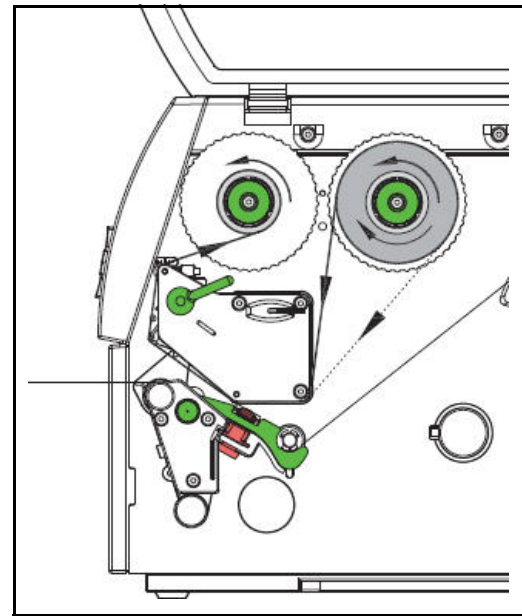

Fig: 11 Transfer ribbon feed path
6. Slide suitable transfer ribbon core (4) onto the transfer ribbon take-up hub (5). Position and secure it in the same way as the supply roll.
7. Guide transfer ribbon through the print unit as shown in Fig. 11.
8. Secure starting end of transfer ribbon to middle of the ribbon core (1) with adhesive tape. When using cores which are wider than the transfer ribbon use the scale (7) at the printhead retainer to adjust the path of the ribbon. Ensure counterclockwise rotation direction of the transfer ribbon take-up hub.
9. Turn transfer ribbon take-up hub (5) counterclockwise to smooth out the feed path of the transfer ribbon.
10. Turn lever (6) clockwise to lock the printhead.